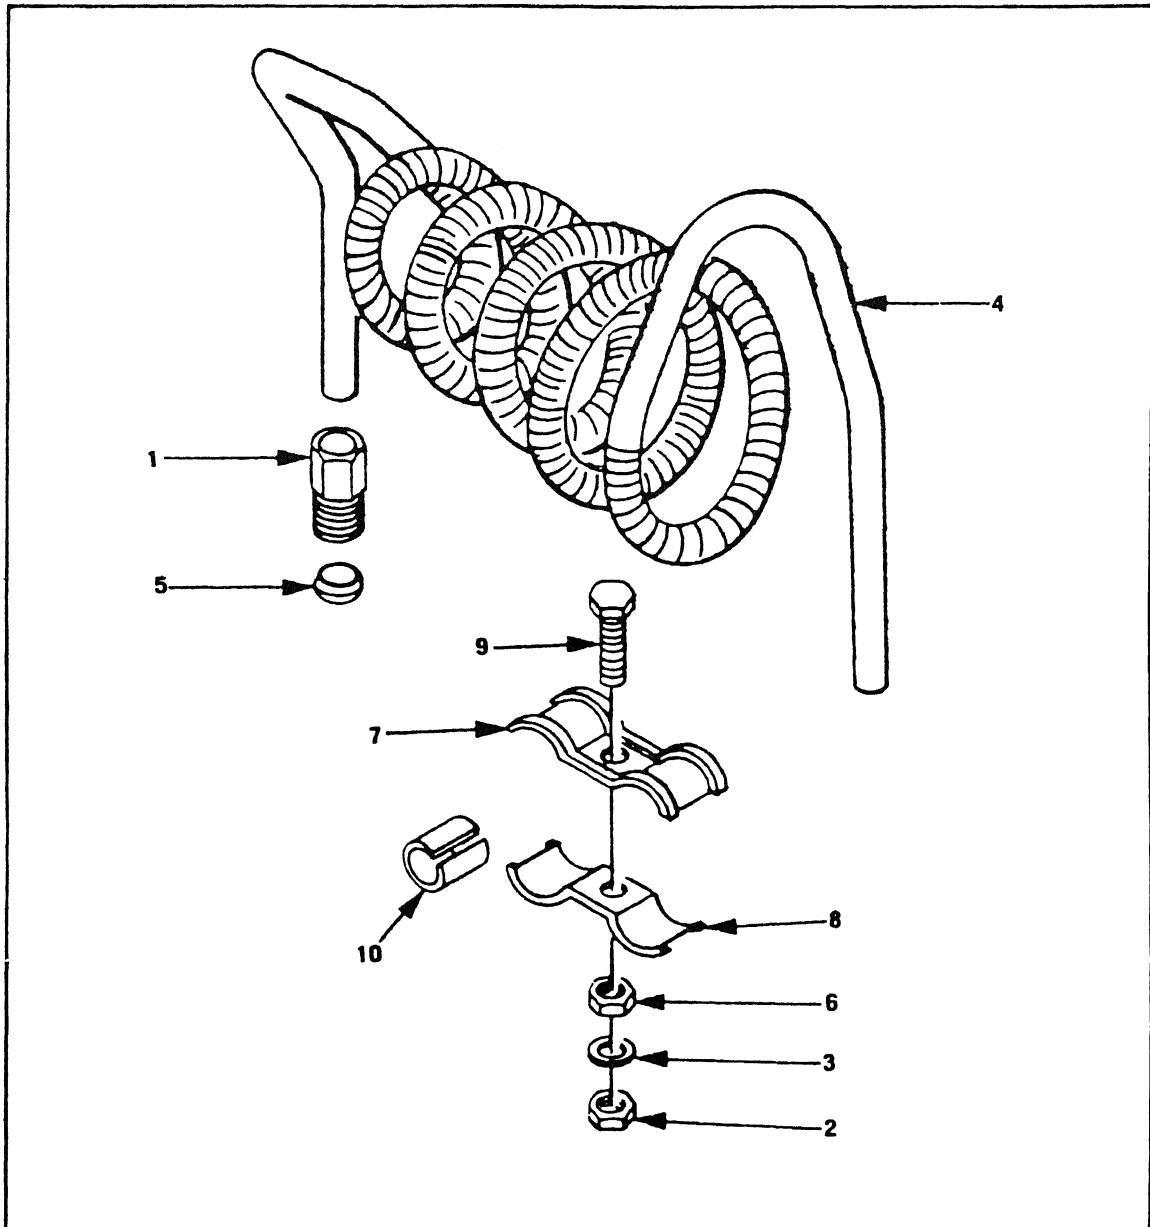

Figure 4-61. Oil Cooler
- (1) Unlatch, open and remove upper air cowling.
- (2) Remove fuel injection feed lines and overflow return line to injection pump. (para 4-26)
- (3) Loosen two cooler coil connectors (1, figure 4-61).
- (4) Remove two nuts (2) and washers (3) securing coil clips to cowling.
- (5) Lift cooler (4) out of engine.
- (6) Remove connectors (1) and ferrules (5).
- (7) Remove two nuts (6) securing top (7) and bottom halves (8) of clips together.
- (8) Remove two bolts (9) and separate clips.
- (9) Remove four rubber sleeves (10) from around coils.
- (1) Place rubber sleeves (10, figure 4-61) around bottom of coils.
- (2) Position top (7) and bottom halves (8) of clips over rubber sleeves and secure with bolts (9) and nuts (6). Do not tighten nuts at this time.
- (3) Slide connectors (1) and ferrules (5) onto tubing, and place cooler (4) in engine, aligning coil connectors at their attach points.
- (4) Slide clips and rubber sleeves around to align clip bolts with holes in cowling.
- (5) Remove cooler from engine and tighten clip attach nuts (6).
- (6) Reinstall cooler and tighten coil connectors (1).
- (7) Install washers (3) and nuts (2) securing clips to cowling.
- (8) Install fuel injection lines and overflow return line to injection pump . (para 4-26)
- (9) Bleed fuel injection lines. (para 4-26e).
- (10) Operate engine (para 2-6 or 2-7) and check for leaks.
- (11) Install, close and latch upper air cowling.